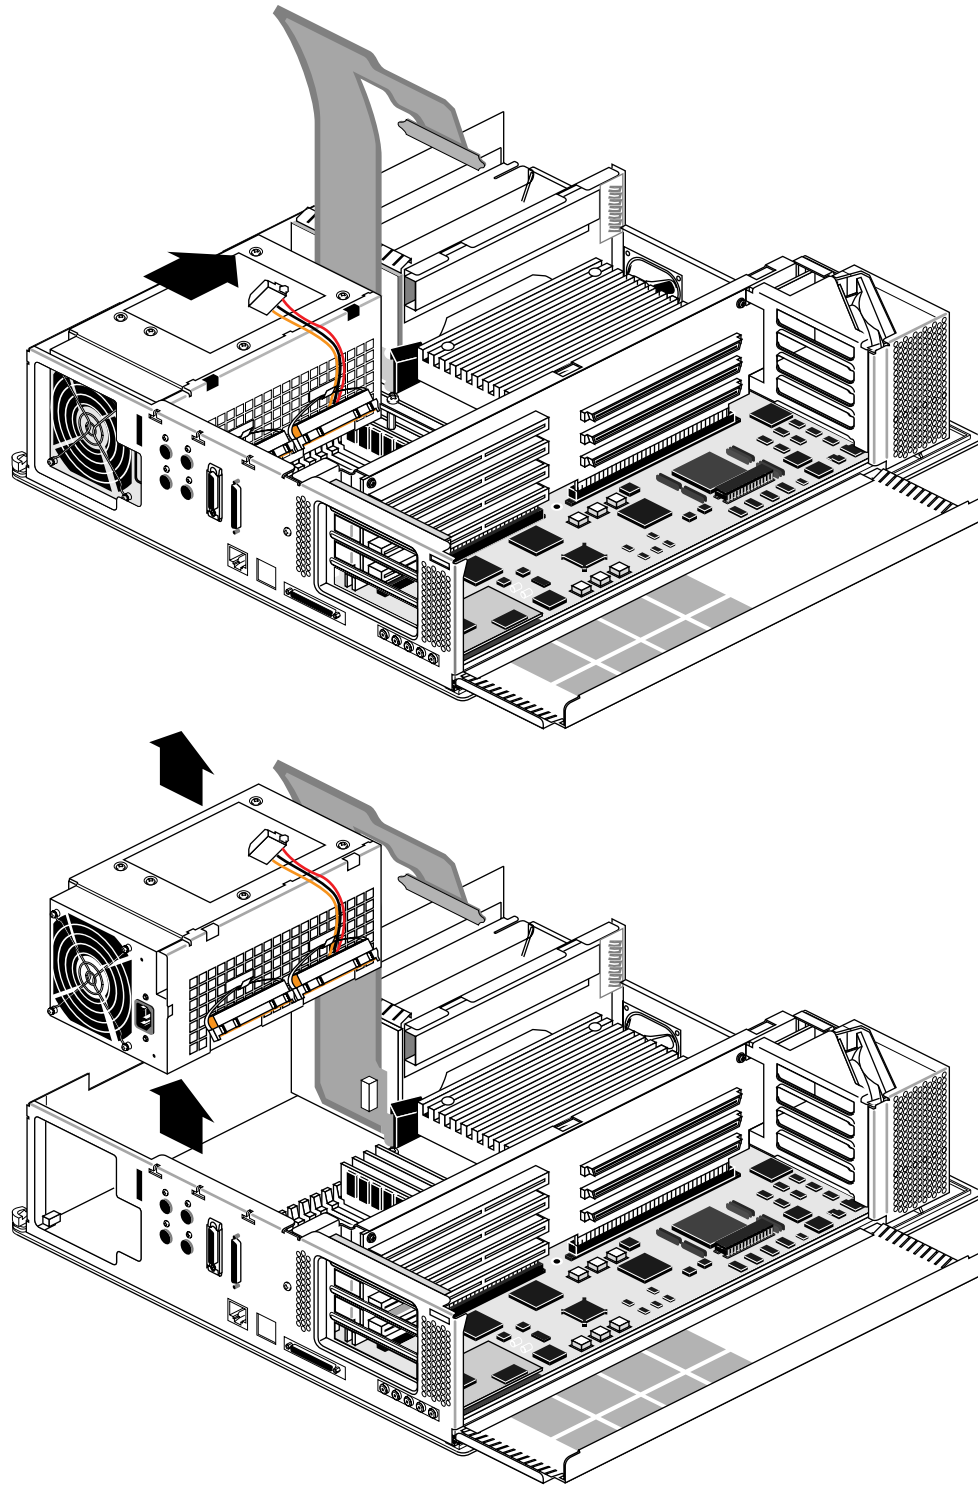

Figure 2-8 Unlatching and Removing the Power Supply
7. Slide the power supply toward the front of the system about 1/4 inch (approximately 6 mm), then lift it out of the chassis, as shown in Figure 2-8.